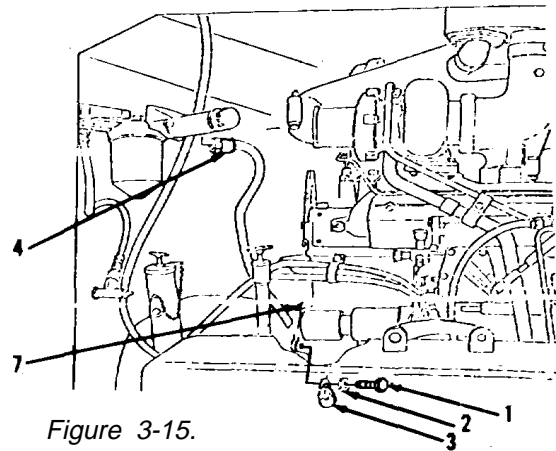

Figure 3-15.
1. Remove bolt (1), washer (2) and clip (3, Figure 3-15) from front of engine.